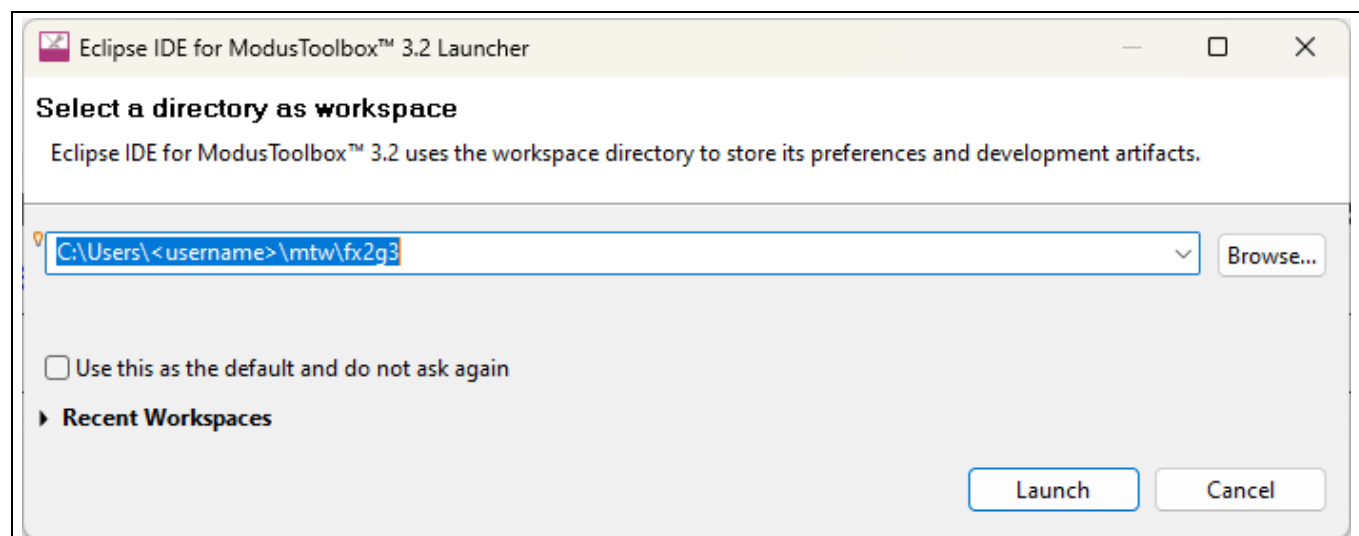

Figure 2 Launching Eclipse IDE for ModusToolbox™ software
1. Launch the Eclipse IDE for ModusToolbox™ software and select the workspace, as shown in Figure 2.